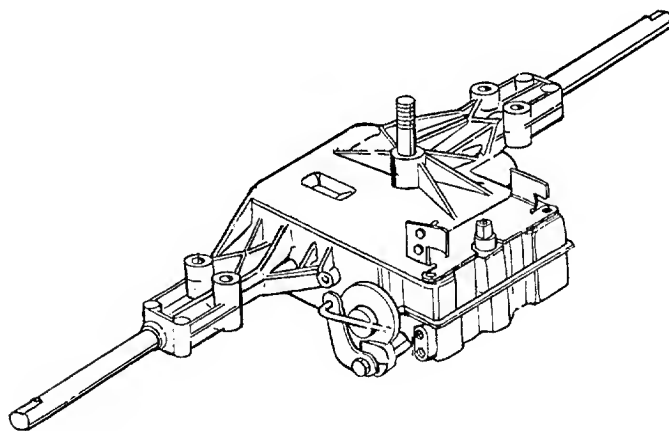

FIGURE 14.
**TRANSAXLE** - The transaxle is lubricated and sealed at the factory. It is not necessary to check the lubrication level unless the transaxle is disassembled for repair. The transaxle is lubricated with 24 ounces of E.P. Lithium grease. See figure 14.